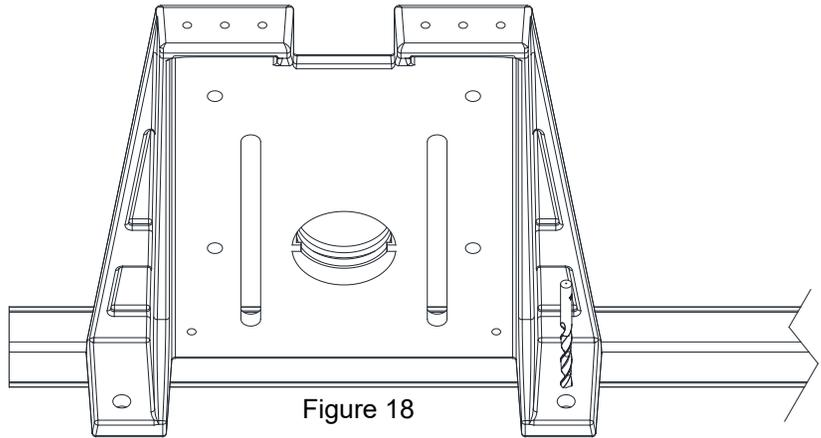
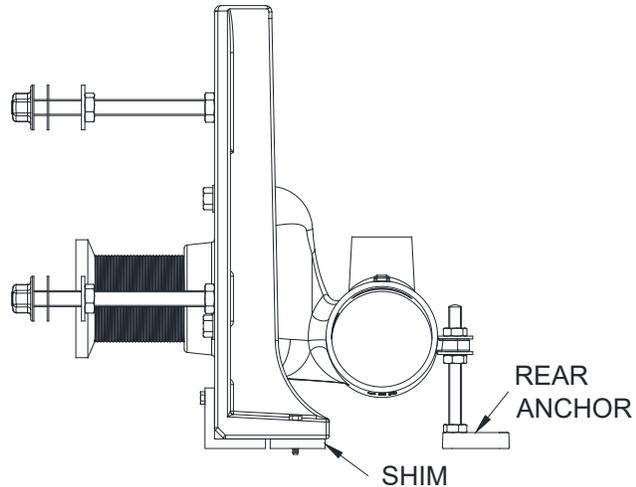

Figure 18
Figure 19
3. Using the proper concrete drilling and strut channel method, drill and tap holes through the feet holes as seen in Figure 18. Lag down the feet and rear anchor using 1/2 [13] anchors as seen in Figure 19.